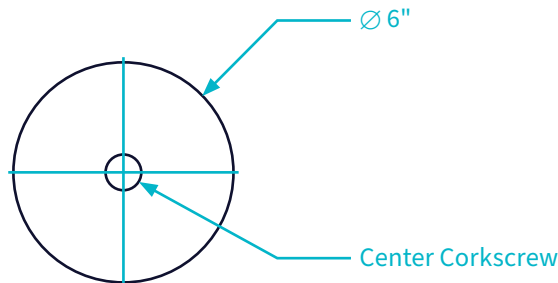

Figure 1: Center point of 6" diameter baffle
3. Center corkscrew hanger over the center point. Hold hanger vertically and gently press hanger until the corkscrew hanger penetrates foam, turning in a clockwise motion. See **Figure 1**, below: